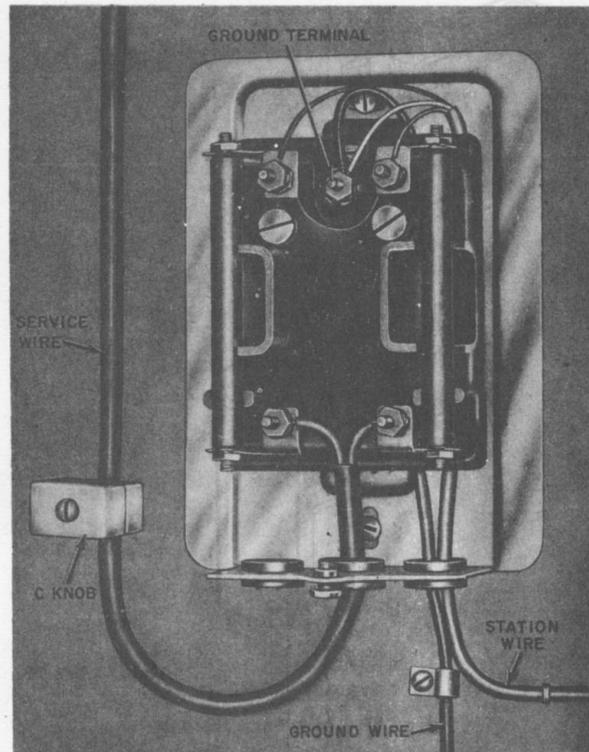

Fig. 17—1293C Protector
**3.08** The 1293C protector (Fig. 17) consists of a 106C protector mounted in a 93C protector mounting. It is intended for outdoor use, and provides protection for one pair of wires.